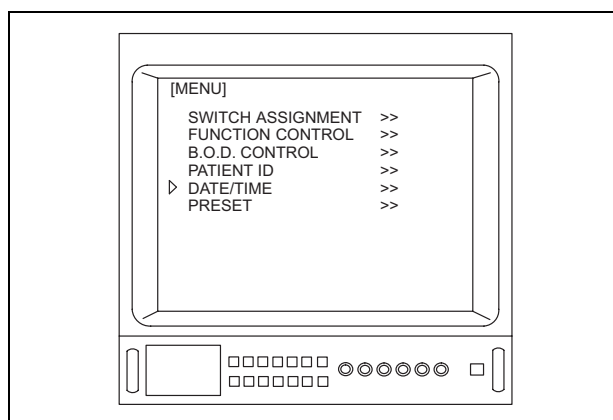

Figure 5.8
2. Depress the menu switches “” or “”, or the “” key on the keyboard to move the arrow “” to “DATE/TIME” (see Figure 5.8).
- When using a type A OTV-S7V, “B.O.D. CONTROL” (see Figure 5.8) is not displayed.
- When the OTV-S7H-1D-F08E/L08E/D-L08E is connected to the OTV-S7V, “SWITCH ASSIGNMENT” (see Figure 5.8) is not displayed.